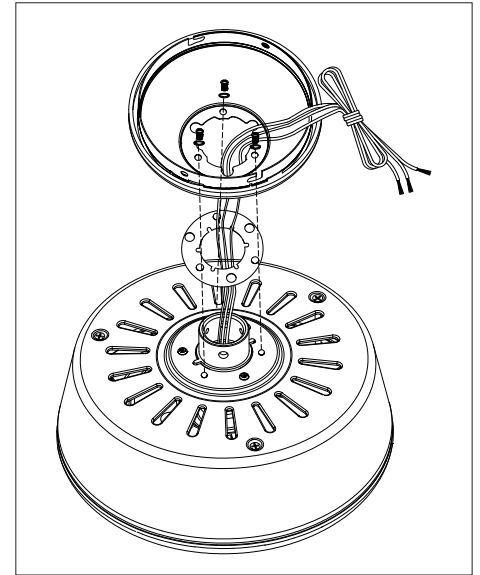

Figure 10
6. Route the wires exiting the top of the fan-motor assembly through the canopy ring, and the canopy (make sure the slot openings for the canopy ring and canopy are on top). Place the collar at the top of the motor. (Figure 10)